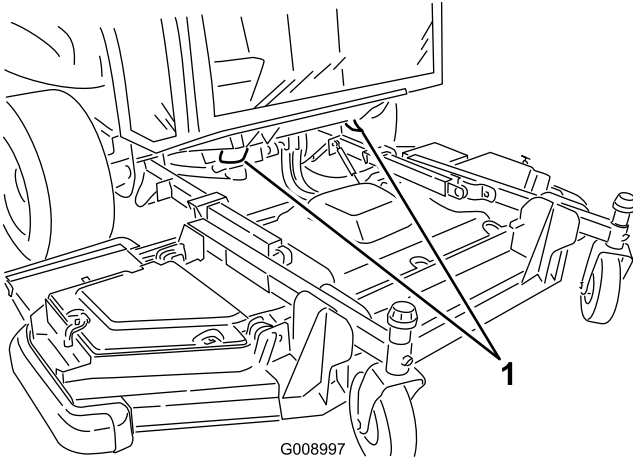

Figure 39
- Under the front of the operator's platform (2 places) (Figure 39).